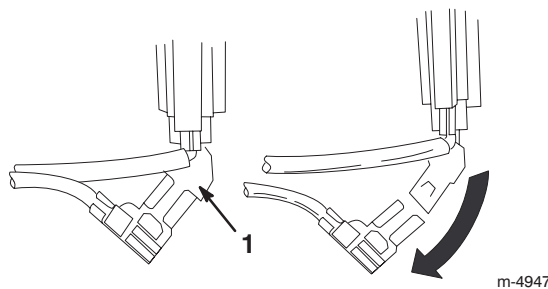

Figure 25
6. Disconnect the green ground wire clip under the throttle (Fig. 25).